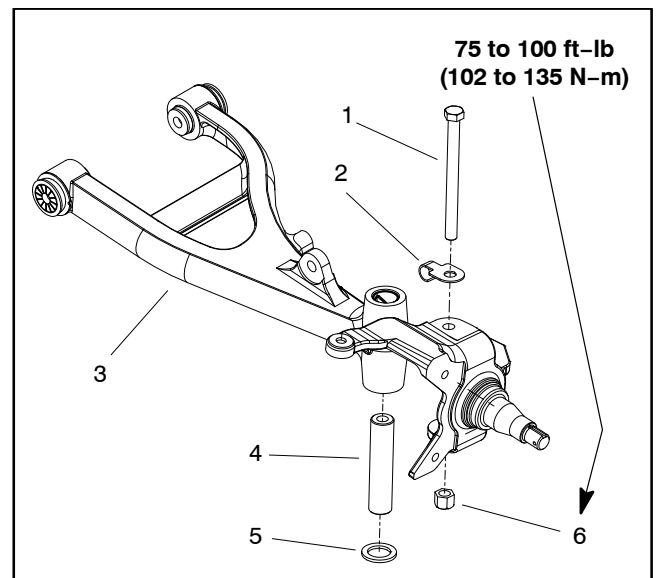

Figure 13
9. Remove spindle (Fig. 13):
1. Install spindle as follows (Fig. 13):